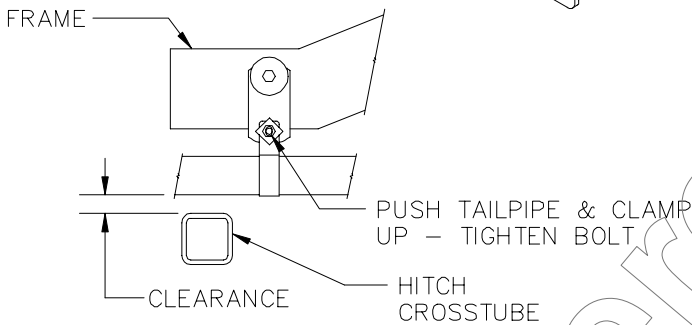

FIGURE 2.
- A. LOOSEN LOWER TAILPIPE HANGER BOLT. PUSH TAILPIPE AND CLAMP UP AND TIGHTEN BOLT. SEE FIGURE 2.